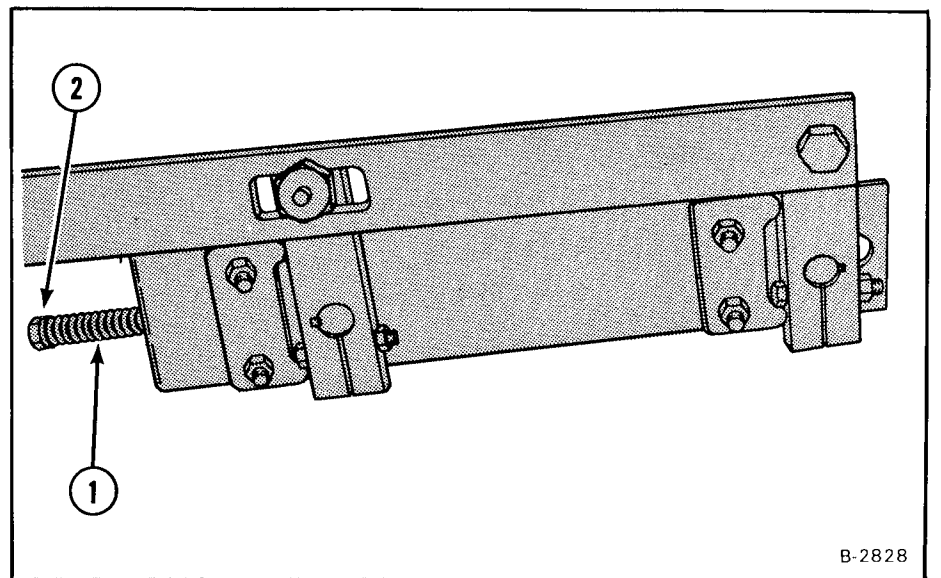

Fig. 3-44 Centering Spring Assembly
- (4) The centering spring (Fig. 3-44, Item 1) must have enough force to hold the pintle arms in the neutral position. Adjustment to the spring is made by turning the nut (Item 2).